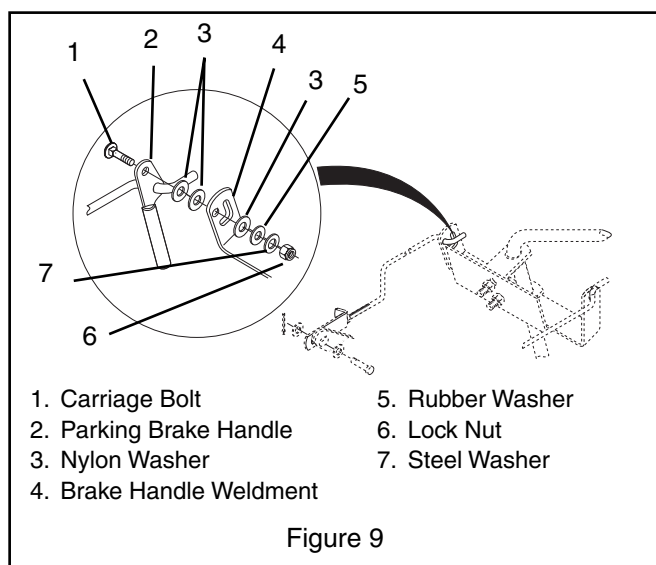

Figure 9
4. Retain with another nylon washer, rubber washer, steel washer and lock nut (Figure 9).